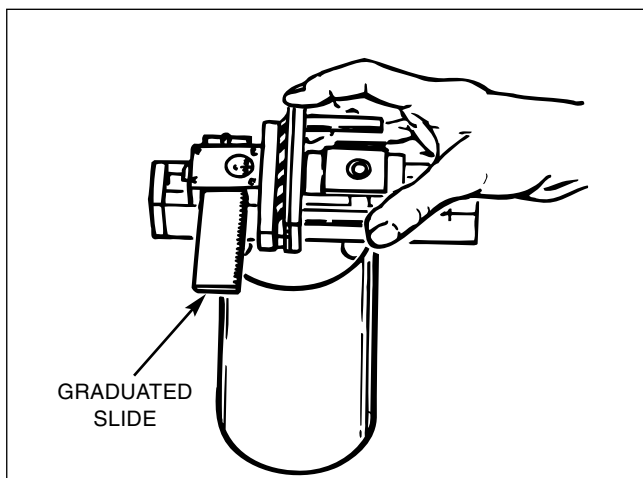

FIGURE 3-11, Stone Assembly
8. Place Guide/Stone Assembly in Setting Gage with graduated slide set at “0” (see Figure 3-11).